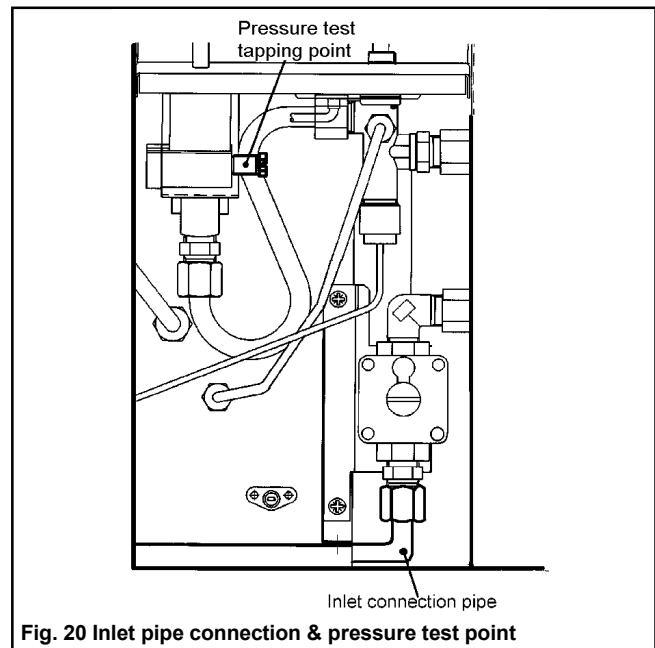

Fig. 20 Inlet pipe connection & pressure test point
11.4 Couple the gas inlet pipe to the connector below the regulator (see figure 20).